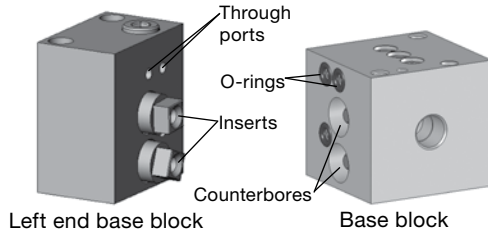

Fig. 1
2. Place a **base block** on the **left end base block**, aligning the **O-rings** (9-007) with the through ports. The square end of the left end base block inserts will be located in the counterbores of the base block. See Fig. 1.